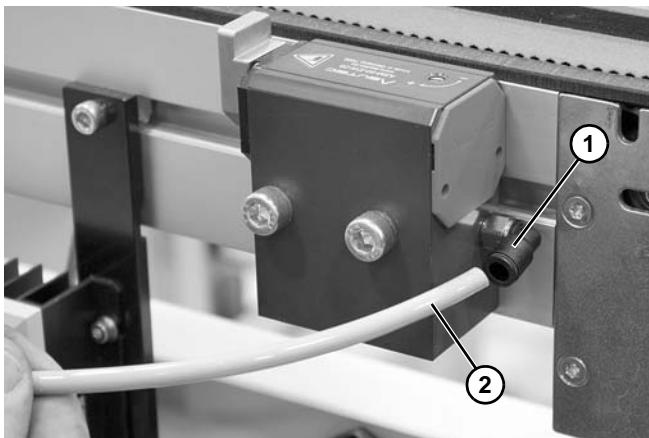

Figure 46
2. Connect the 3-port 2-way solenoid valve to the stop. Dorner fittings (Figure 46, item 1) accept 1/4" outside diameter tubing standard (Figure 46, item 2).